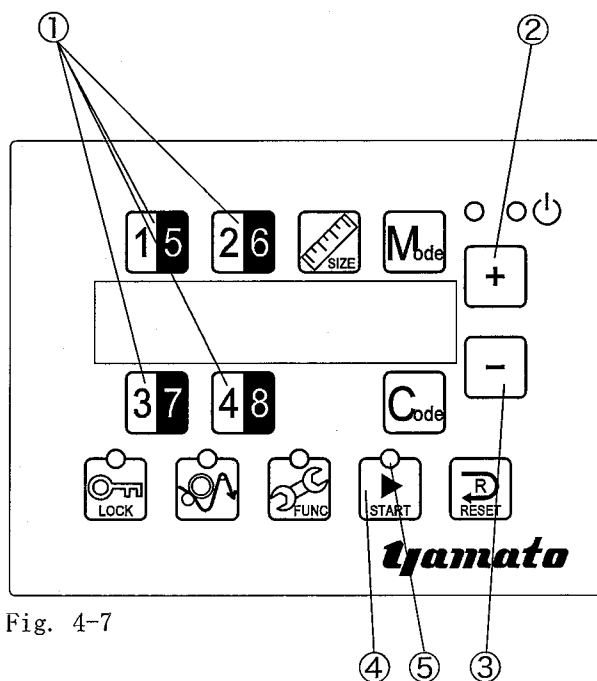

Fig. 4-7
○ Press the switch ① to select a process. (Fig. 4-7)